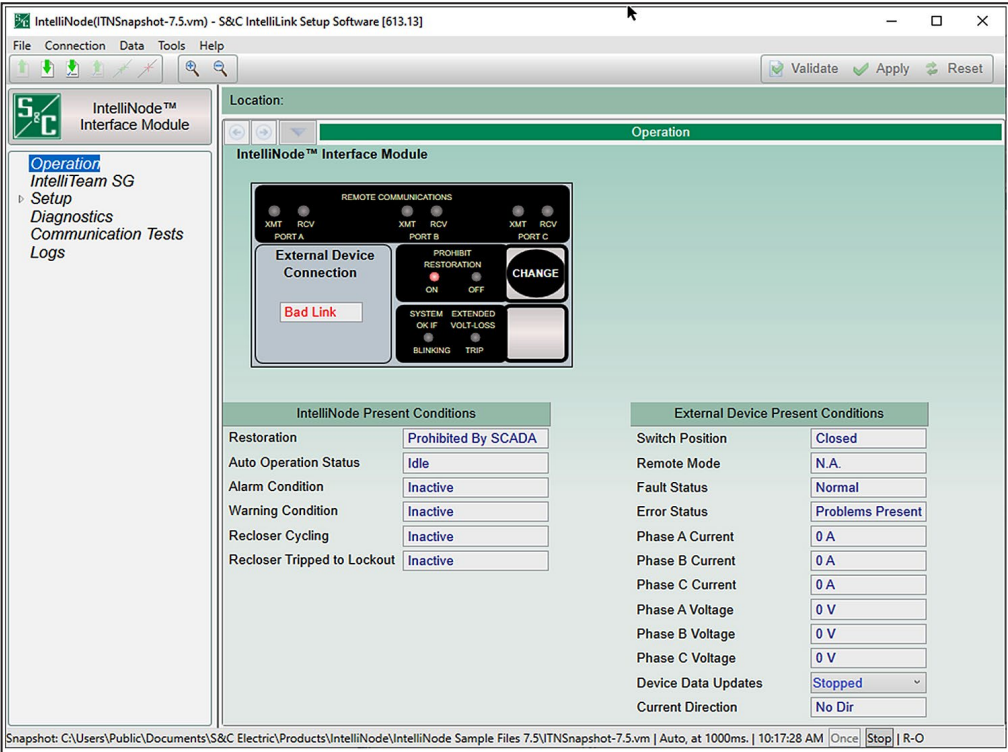

Figure 10. The IntelliNode module *Operation* screen.
STEP 7. When the login has completed, the *Operation* screen opens. See Figure 10.